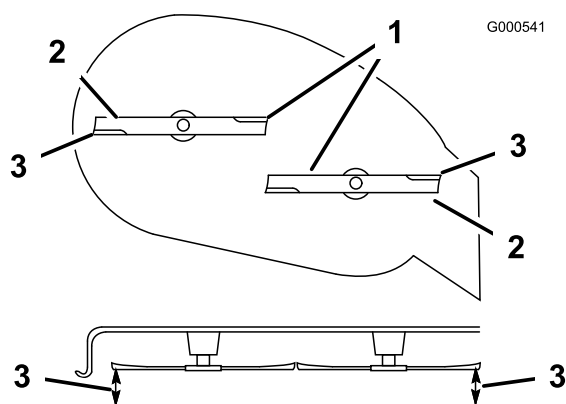

Figure 42
- Carefully rotate the blade(s) side to side (Figure 42). If both measurements are not within 3/16 inch (5 mm), an adjustment is required; continue with this procedure.
- Measure between the outside cutting edges and the flat surface (Figure 42). If both measurements are not within 3/16 inch (5 mm), an adjustment is required; continue with this procedure.